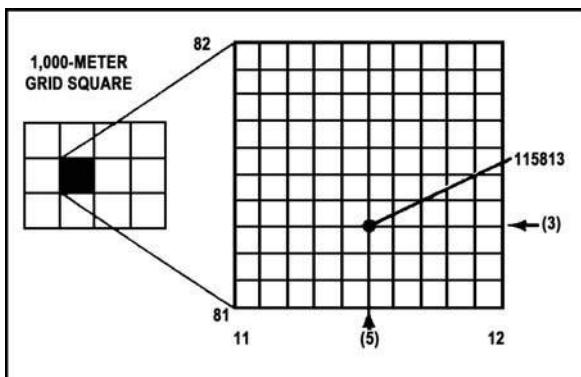

Figure 071-329-1002-2. Grid square 1181 divided
- b. Suppose you are halfway between grid line 11 and grid line 12. Then the next number is 5 and the first half of your address is 115. Now suppose you are also 3/10 of the way between grid line 81 and grid line 82. Then the second half of your address is 813. Your address would be 115813 (figure 071-329-1002-2). (If you are exactly on line 81, the second half would be 810.)